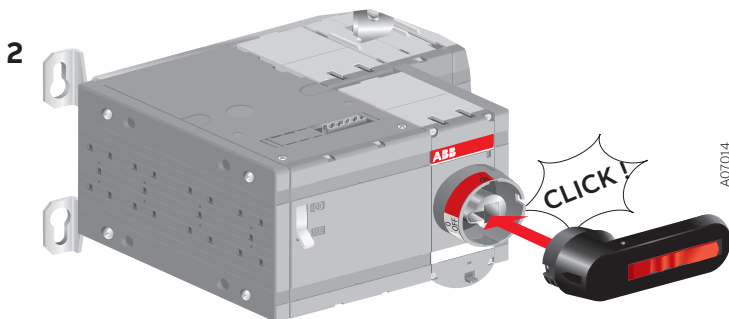

Figure 6.6 Attaching the handle
2. Attach the handle by pressing it to the switch panel until it clicks into place, see Figure 6.6. You can attach the handle in both positions (I or O).